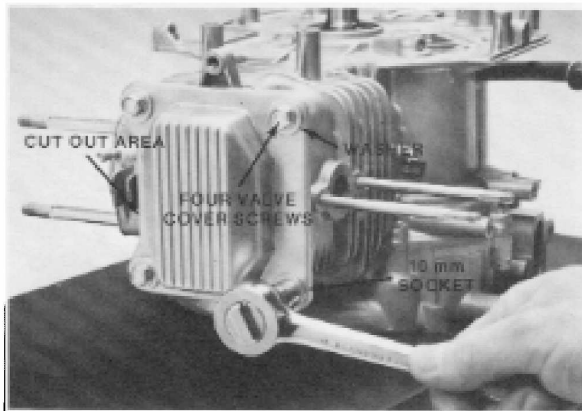

Figure 4-10
1. Remove the four screws retaining the valve cover. See Fig. 4-10. Don't lose the washers under each screw.